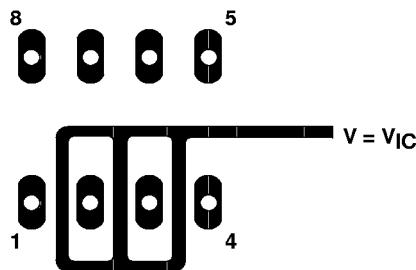
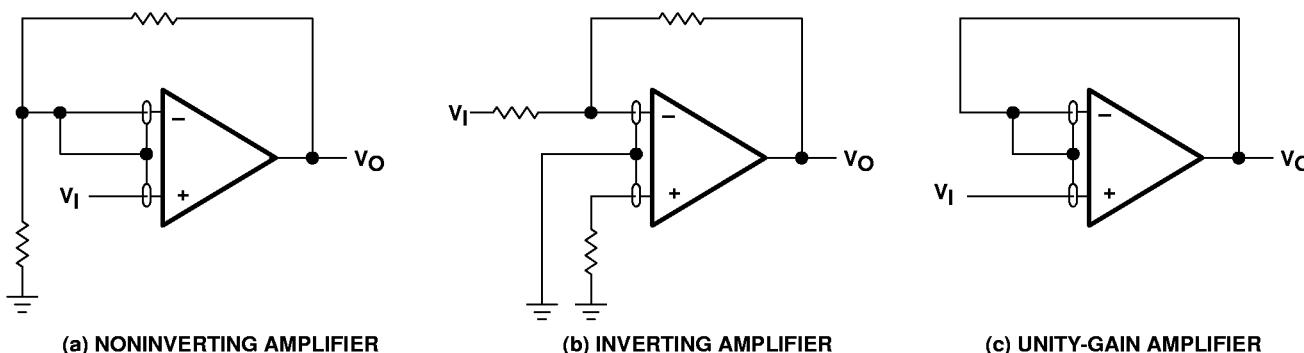

Figure 101. Isolation Metal Around Device Inputs (JG and P packages)
Figure 107. Guard-Ring Schemes
1. Isolate the device from other potential leakage sources. Use a grounded shield around and between the device inputs (see Figure 101). Leakages that would otherwise flow to the inputs are shunted away.
Because of the extremely high input impedance and resulting low bias current requirements, the TLC271 is well suited for low-level signal processing; however, leakage currents on printed circuit boards and sockets can easily exceed bias current requirements and cause a degradation in device performance. It is good practice to include guard rings around inputs (similar to those of Figure 101 in the Parameter Measurement Information section). These guards should be driven from a low-impedance source at the same voltage level as the common-mode input (see Figure 107).